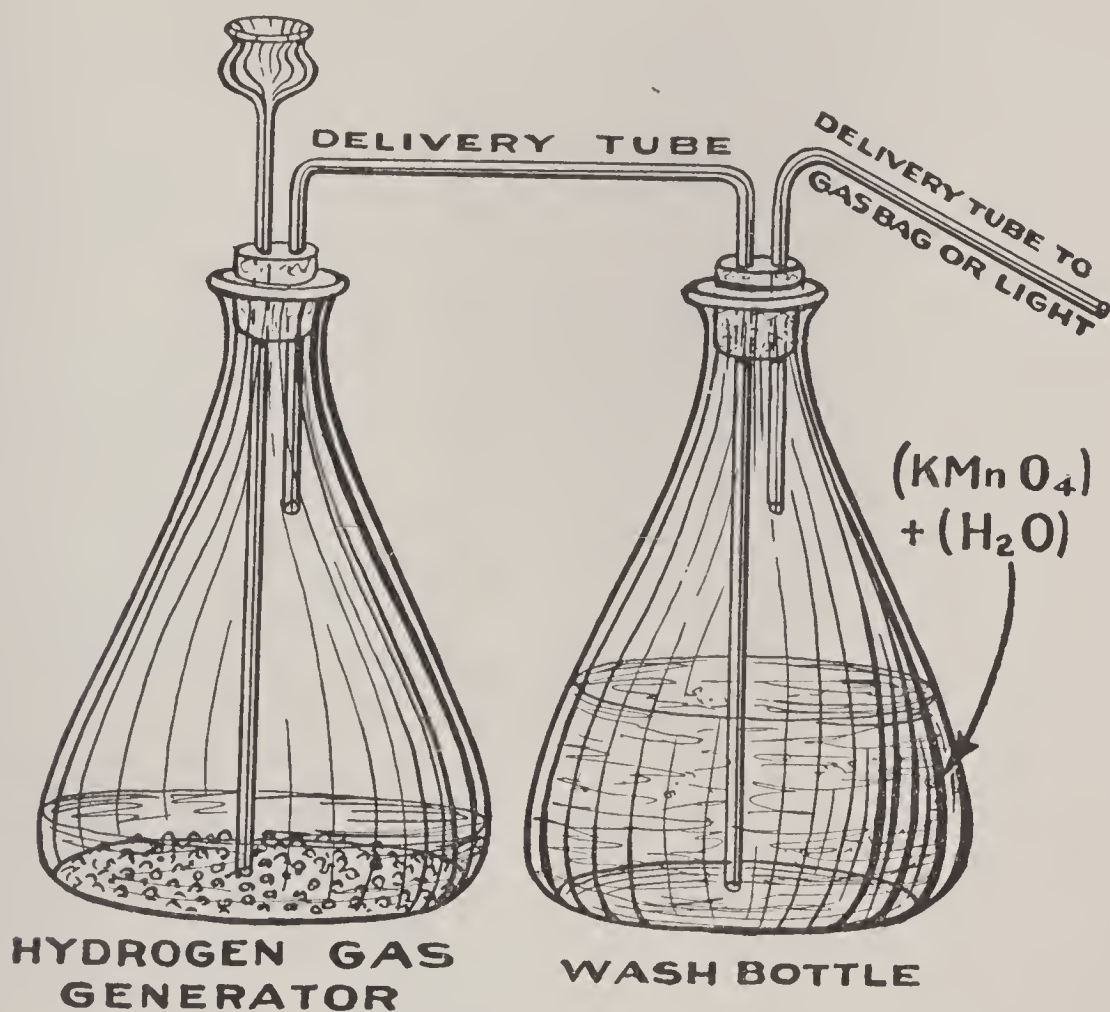

FIG. 92.—How to Purify Hydrogen and Other Gases.
potassium permanganate ($KMnO_4$) in 4 or 5 ounces of water (H_2O). This solution is put in a wash-bottle, that is, a flask or any wide-mouth bottle with a tight-fitting cork in which there are two tubes; the longer one, which reaches below the surface of the solution, is connected with the delivery tube of the generating apparatus, and the purified hydrogen (H) is given off through the short tube, as shown in Fig. 92.